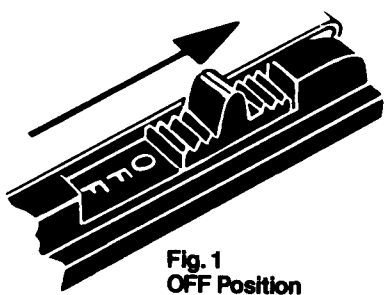
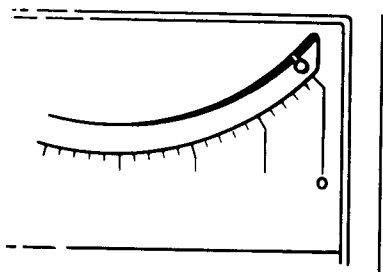

Fig. 1
Fig. 2
4. To remove chart from take-up spindle ①, move the latches away from the take-up spindle. Turn knurled knob on spindle ② until the slot in the take-up drive pulley at the opposite end of the spindle is lined up with the slot in the side frame of the recorder. Slide the spindle and chart up and out of the slots in the side frames of the recorder. Remove tape from chart and bobbin.
5. To unload chart paper from recorder turn chart drive switch off, exposing the word "OFF". See fig. 1. Follow 4 above. Remove chart from feed shaft ③ and pull paper thru recorder.
1. Chart drive switch must be in "OFF" position (exposing the word "OFF"). See fig. 1.
1. Move chart drive switch to "OFF" position exposing the word "OFF." See fig. 1.
With chart drive switch in "OFF" position (see fig. 1) exposing the word "OFF," check mechanical zero setting of pointer (see fig. 2) before making any electrical connections to the instrument. If adjustments are necessary proceed as follows:
- c) Apply finger to star wheel and turn until pointer lines up with zero mark at the extreme right of scale. See fig. 2.